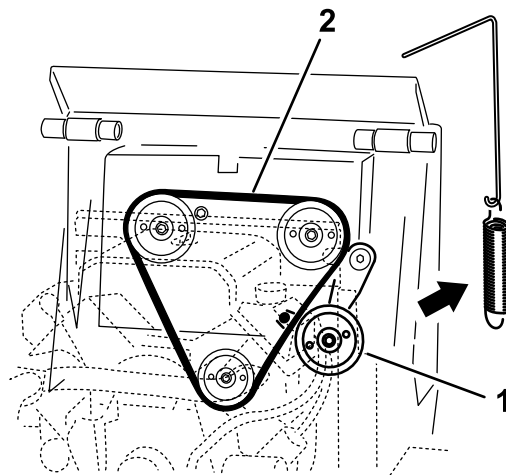

Figure 53
- Remove the idler pulley spring from the idler-pulley assembly (Figure 53).
- Install a new drive belt around the 3 pulleys (Figure 53).